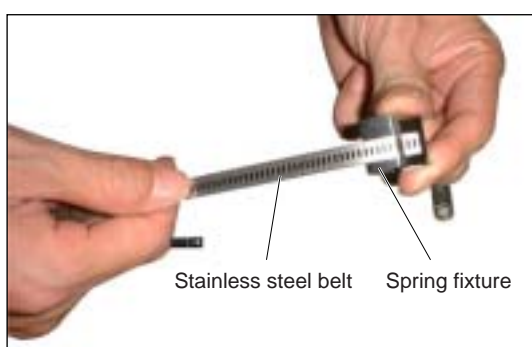

Fig. 3-2
- (1) Pass the spring fixture on the stainless steel belt as shown in Fig. 3-2.